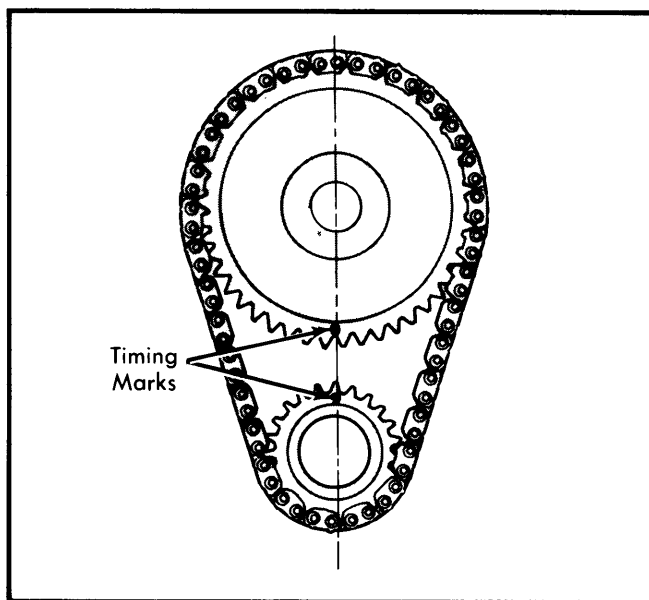

Fig. 12 Timing Chain Sprocket Alignment
Removal & Installation — 1) Crank engine until timing marks are positioned properly. See Fig. 12. Remove camshaft sprocket cap screw, washers and fuel pump eccentric. Slide both sprockets and timing chain forward and remove them as an assembly.
2) To install, position timing chain on sprockets with timing marks aligned. See Fig. 12. Slide sprockets and timing chain onto engine as an assembly. Install fuel pump eccentric, washers and sprocket cap screw. Tighten bolt and oil timing chain.